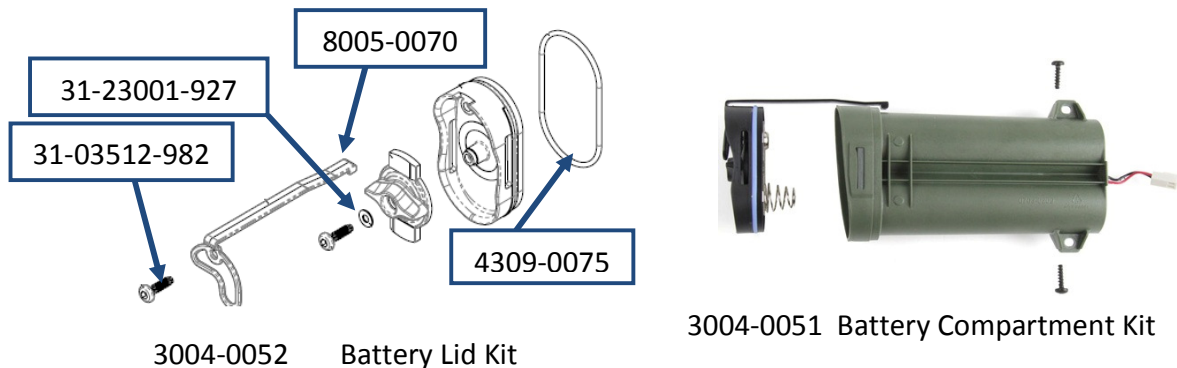

Figure 88: Battery Service Kits
a. The battery compartment and the battery lid are line replaceable units and available as service kits which include associated parts as shown in Figure 88.